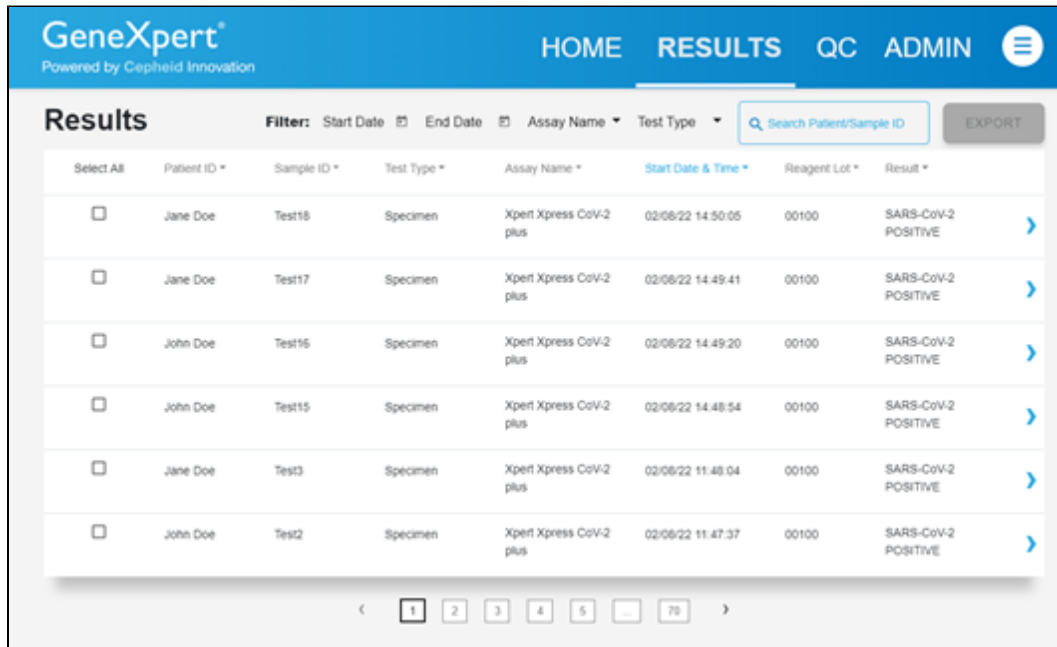
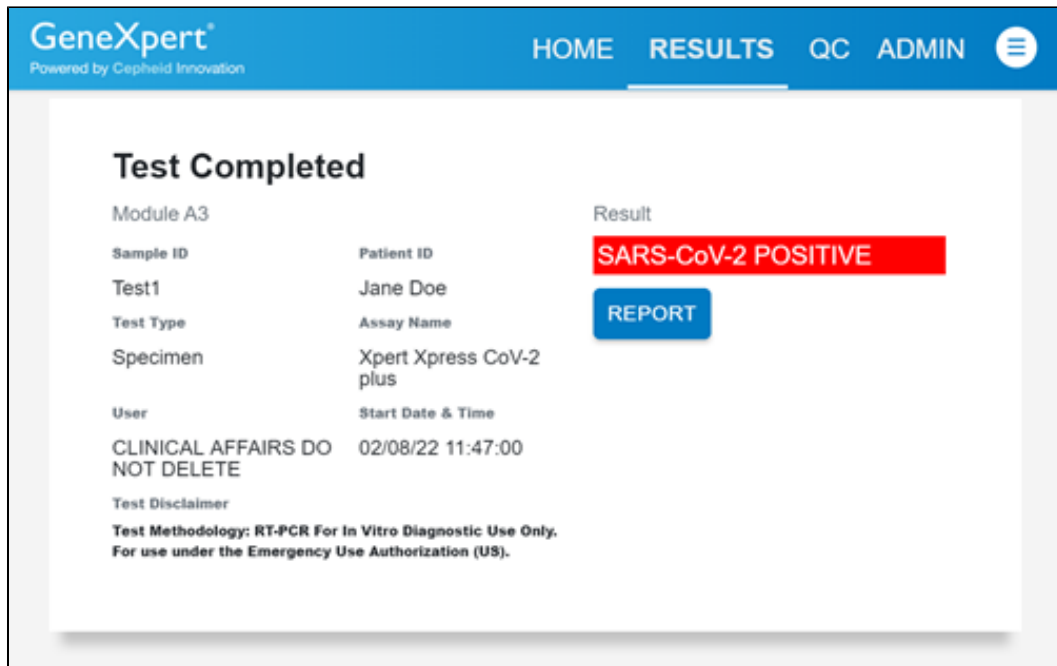

Figure 31. Results Screen
Figure 32. Test Result Screen (Example)
- Touch the **RESULTS** button located on the panel at the top of the screen (see Figure 31). The Results screen appears (see Figure 32). Test results are, by default, in order of the date and time that the test was run. Navigate through the test result pages by touching the numbered buttons or arrows at the bottom of the screen,
2. Touch the desired result to open the Test Result screen (see Figure 32).